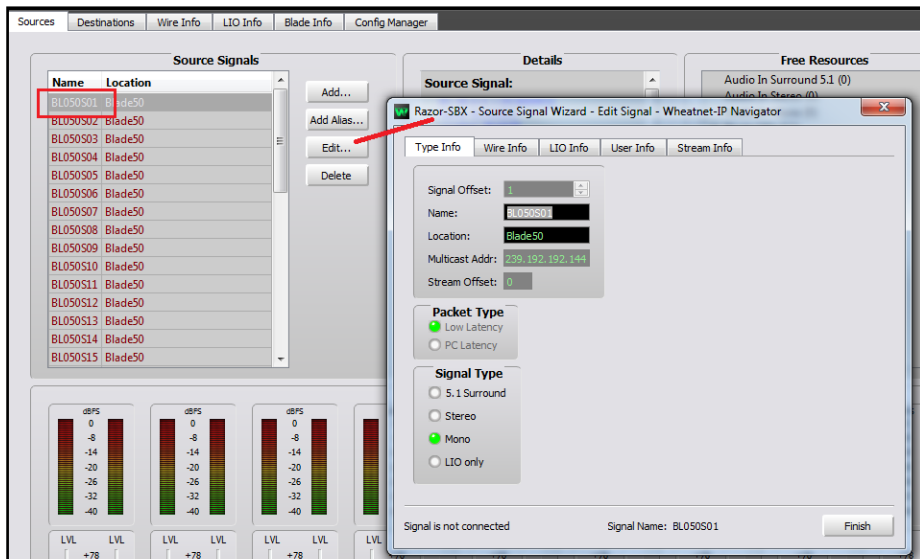
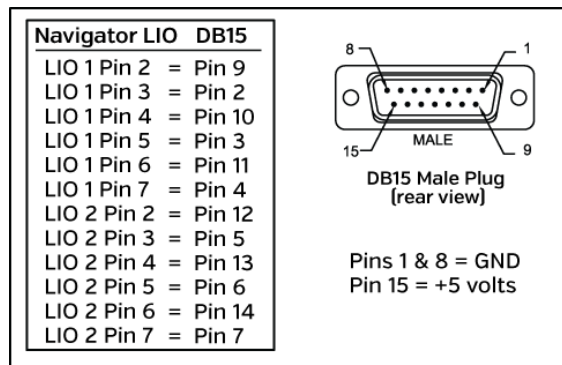
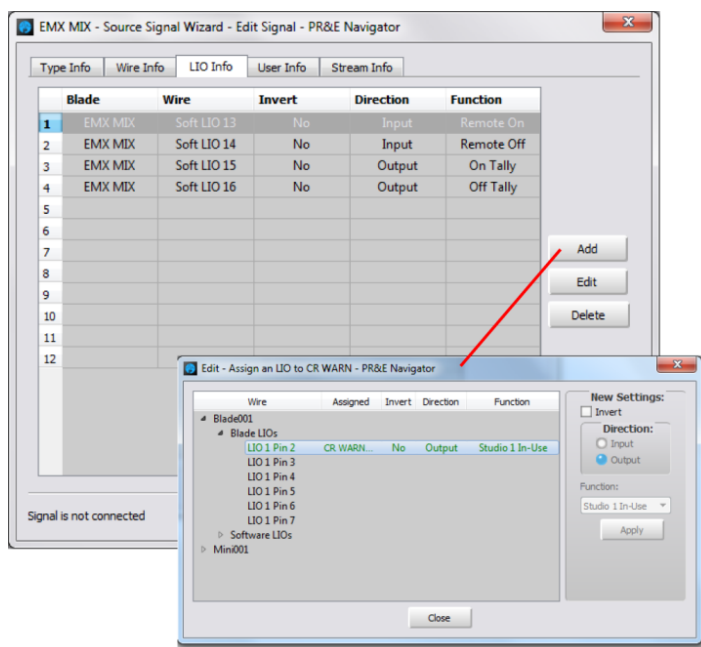

Figure 3-14 Edit Signal Window
Figure 3-16 Stagebox LIO Connector & Navigator LIO Numbering
Figure 3-17 Logic Assignment tab
Edit Signal window (shown in Figure 3-14 on the next page) so you can add a new signal. The other three buttons require one to first select a signal and then click *Edit...* to edit that signal; *Delete* to delete the selected signal to free up resources; or *Add Alias...* to create a new signal based upon the selected signal.
Clicking the *Edit* button also opens up the Edit Signal window (Figure 3-14) where the signal name and format (*Signal Type*) can be edited and where LIO or SLIO commands can be assigned to that audio signal. The steps to accomplish common actions like renaming signals, changing the signal type, and assigning logic, are covered in their own sections over the next several pages.
You can alternately click once on the name then click *Edit...* to open the *Edit Signal* window to edit the name, which is automatically highlighted when the window opens, as shown in Figure 3-14 on the next page.
Click on BL050S01 and click *Edit...* to open the Edit Signal window (Figure 3-14). Change the **Signal Type** selection from Mono to Stereo. You can then edit the name to STEREO 1 to indicate that Mic/Line In 1 and Mic/Line In 2 are now a stereo input. If you know what stereo device will connect to those inputs enter that device name in the *Name* entry box. Click *Finish* to close the Edit Signal window.
**Note:** You can't edit a source or a destination signal when it's connected in the Crosspoint grid. When the Edit Signal window opens (Figure 3-14) look at the bottom of that window and verify it shows "Signal is not connected." If "Signal is connected" is shown you won't be able to make any changes to that signal, other than editing its name, until you disconnect its crosspoints.
A Stagebox also has twelve logic signals, but they're on one 15-pin female d-sub connector. However, Navigator lists the Stagebox LIO signals using the standard Blade format, as if the signals were on two RJ45 jacks, so Figure 3-16 shows the pin out for the DB15 male mating connector and a chart to cross the Navigator logic signal names to the DB15 pins.
Both the LIO and the SLIO logic are set using the same *Edit Signal* window, as was used to set the audio format (stereo/mono) and to name the audio signals, if the logic is associated with an audio input signal. For example, if the first Stagebox input (BLO50S01) needs to have logic assigned to it, select that audio input name (it highlights) in the Source Signals list then click *Edit* to open the Edit Signal window (the process shown in Figure 3-14 on page 25). Click the **LIO Info** tab (Figure 3-17) to show any logic settings already set for that audio signal. Click *Add* to add new logic signals. If a logic setting has already been added, click on the signal row then click *Edit* to open the edit window to change the setting, or click *Delete* to remove that logic entry.
Figure 3-17 shows the typical settings used with a WheatNet Talent Station (TS). It uses two logic signals to carry Remote On and Remote Off commands from the TS to a console channel, and two logic return signals to carry the On and Off Tally logic back to the TS to light up the On and Off buttons. These are assigned using Soft LIOS since the TS is a networked device. Figure 3-17 shows the **Assign LIO** window, opened by clicking *Add*.
Click the *LIO Info* tab to view the **Logic Assignments** window then click *Add...* to open the **Assign LIO** window (Figure 3-17). To add output logic, select Output as the *Direction:* then select a *Function:* from the drop down list of selections. To create a STU WARN command for Studio 1, select *Studio 1 In-Use*. For a Studio 2 HOT STU light, select *Studio 2 In-Use*. If the Control Room needs a warning light output, select *Studio 3 In-Use*. Note the LIO connector number and pin number for each signal since that identifies which pin you’ll connect the different logic signals to on the LOGIC 1 or LOGIC 2 connector on that Blade (or to the single LOGIC connector on the Stagebox). Click *Apply* to set that logic command. To control multiple hot studio lights you would repeat this process to add multiple logic signals. Once you’re done click *Close* to close the Assign LIO window then click Finish to close the Edit Signal window.
In the example in Figure 3-17, when a STU 1 mic channel is on-air, there will be a contact closure between pin 2 (STUDIO 1 IN-USE) and pin 1 (ground). With a second LIO assigned to pin 3, and labeled STUDIO 2 IN-USE, when a Studio 2 mic channel is on-air, they’ll be a contact closure between pin 3 (STUDIO 2 IN-USE) and pin 1 (ground). These logic outputs are then physically connected to a hot studio warning interface or directly to a low-voltage LED warning light. If the logic is coming from a Stagebox, follow the chart in Figure 3-16 on page 26 to determine the correct DB15 pin for each of the LIO pin numbers listed in Navigator.